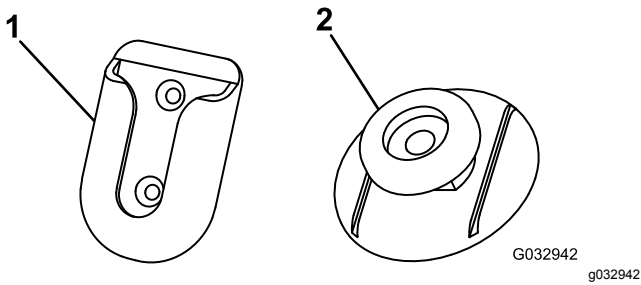

Figure 18
- Clean the back of the swivel mount (Figure 18) with the alcohol wipe and then dry it.
- Remove the backing from 1 side of the adhesive and apply it to the back of the mounting tab (Figure 18).